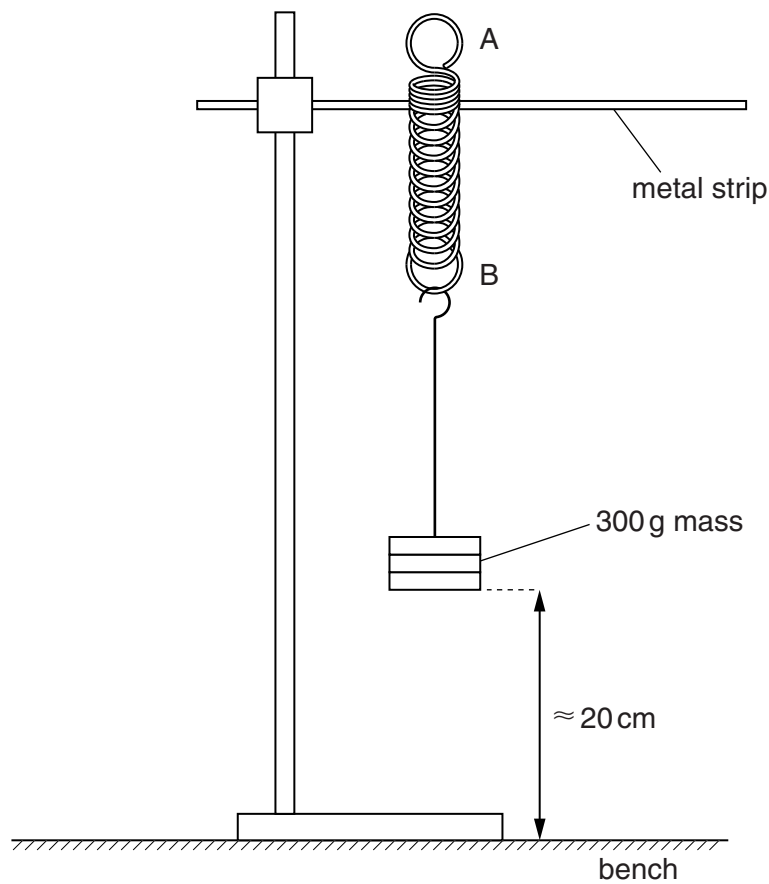

Fig. 2.3
- (c) (i) Clamp the metal strip so that it is horizontal with loop A of the spring at the top. Gently hang a mass of 300g from loop B, as shown in Fig. 2.3. Ensure that the base of the mass hangs approximately 20cm above the bench.